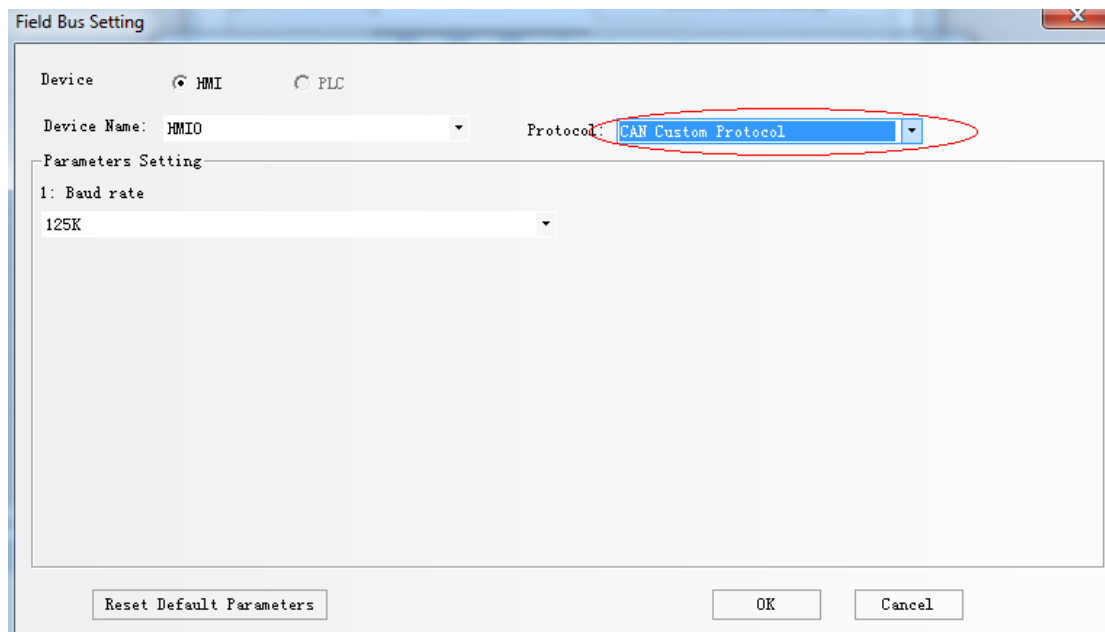

Fig.5
3. Select "CAN Custom Slave" as shown in Fig.5